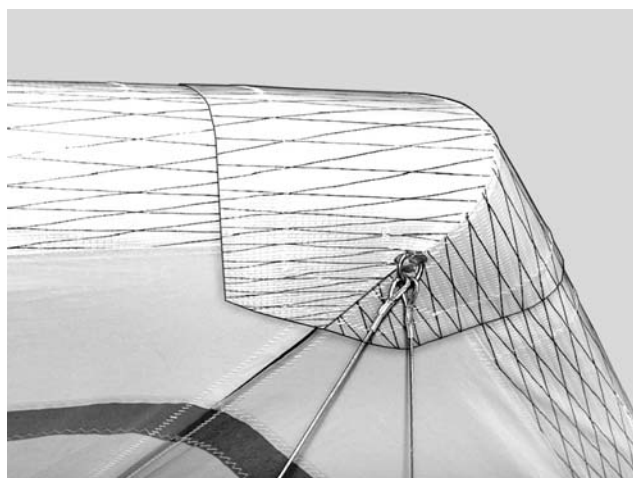

Fig.17
14. Install the nosecone taking care to align it so that it lies flat on the top and bottom of the sail (Fig.17) .